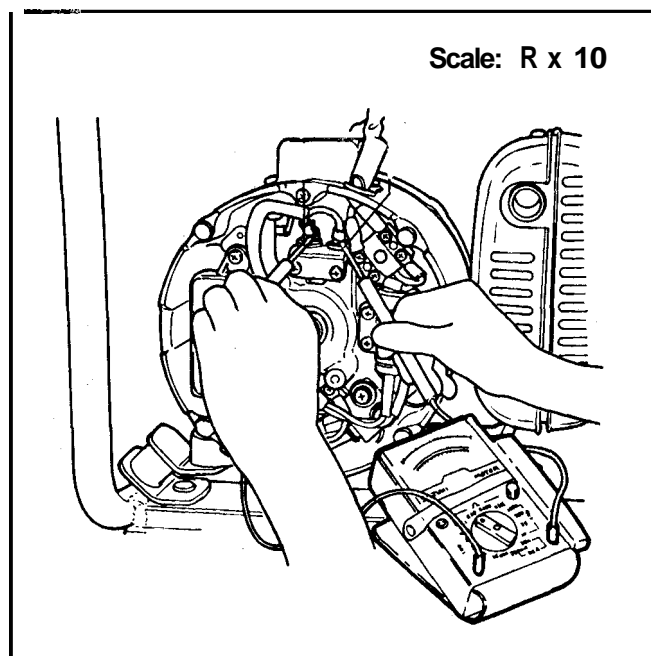

Figure 137
6. Place your multimeter on the **R X 1** scale and measure the resistance of the rotor through the brushes. See Figure 137.